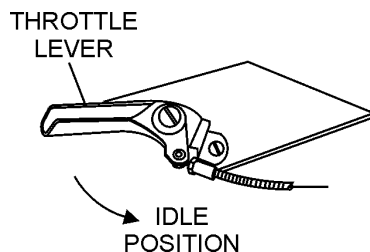

Figure 9. Throttle Lever (Idle Position)
2. Place the trowel's ***throttle lever*** (Figure 9) to the "IDLE" position.